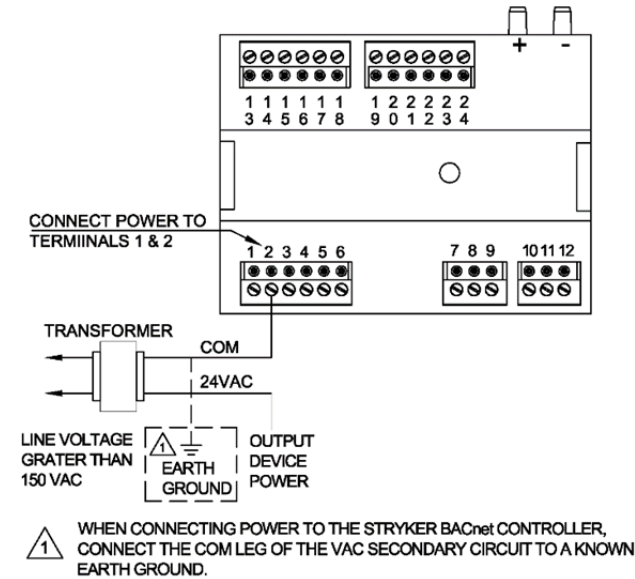
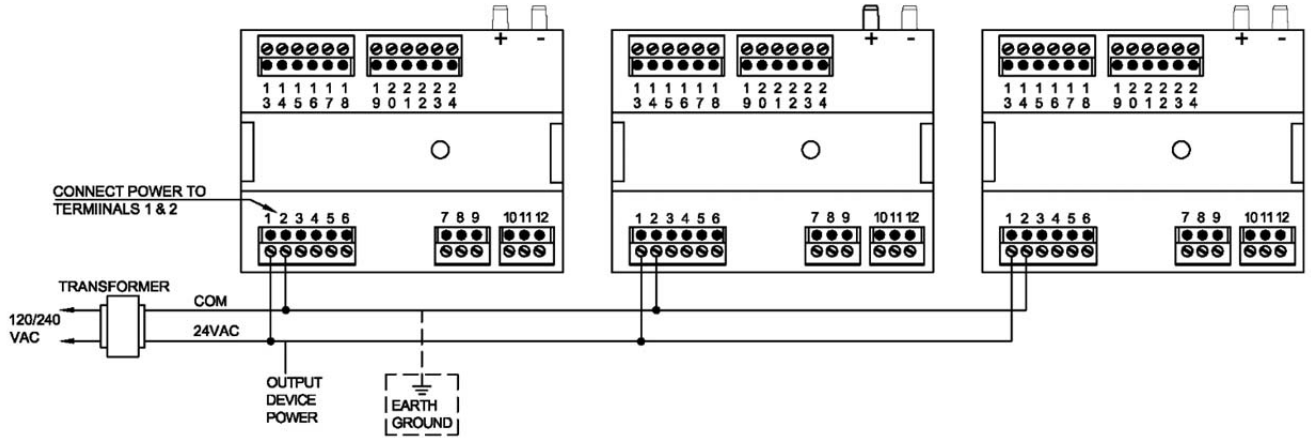

Figure 13: Power Wiring details for one Controller per Transformer
Figure 15: Power Wiring details for two or more Controllers per Transformer
More than one controller can be powered by a single transformer. Figure 15 shows power wiring details for multiple controllers.
For multiple controllers operating from a single transformer, the same side of the transformer secondary must be connected to the same power input terminal in each device. The earth ground terminal must be connected to a verified earth ground for each controller in the group (Refer to Figure 15). Controller configurations are not necessarily limited to two devices, but the total power draw, including accessories, cannot exceed 100 VA when powered by the same transformer (U.S. only).
- Keep the earth ground connection wire run as short as possible (Refer to Figure 13 and Figure 15).
- Do not connect earth ground to the controller's digital or analog ground terminals (Refer to Figure 13 and Figure 15).